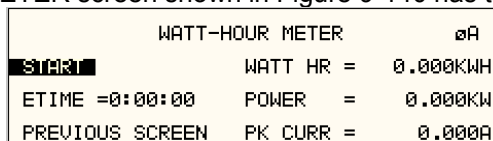

Figure 9-140 Watt-Hour Meter Screen
- The WATT-HOURS METER screen shown in Figure 9-140 has the following fields: